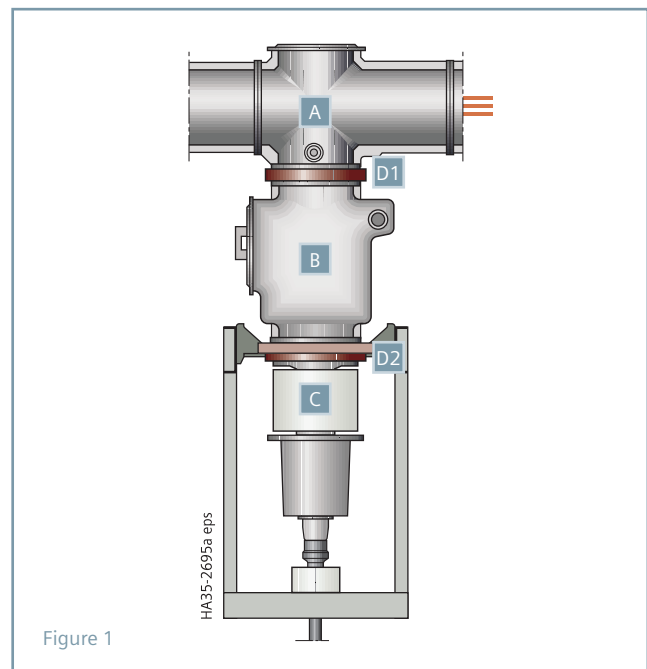

Figure 1
The graphic in Figure 1 illustrates a typical circuit breaker unit of single-bus type 8DA gas-insulated switchgear. The main bus housing (A) is located at the top, with the vacuum interrupter housing (B) located below, and the current transformer housing (C) located beneath (B).
Returning to Figure 1, the epoxy insulator D2 does not have a ground jumper directly between the vacuum interrupter housing (B) and the CT housing (C). Thus, there is no current connection for ground return current through the aluminum housings. Instead, the connection is made from the bottom of the CT housing directly to the ground bus of the switchgear, allowing ground current to return to ground, but not allowing the ground return current to pass through the current transformer window.